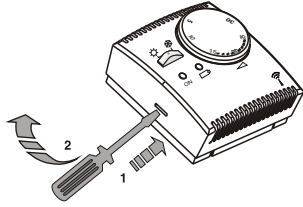

Fig. 6
- Remove the cover of the thermostat as shown in fig. 6